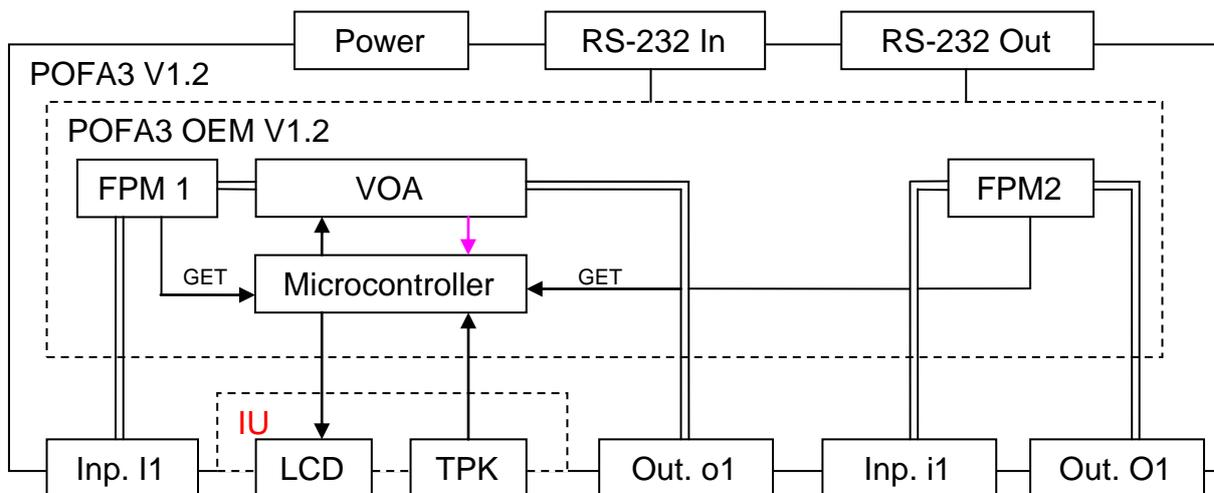

Figure 4: Function block diagram
POFA3 is composed of the attenuator, a fiber power meter (FPM), a microcontroller and a power supply (Fig.4). The light goes from the input connector through FPM and attenuator to the output connector. The attenuator consists of a variable rotated filter and precise rotated actuator. The interface unit (IU) attends to the user interface, the POFA control and the remote communications. The IU is composed of a LCD and a turn/push knob.